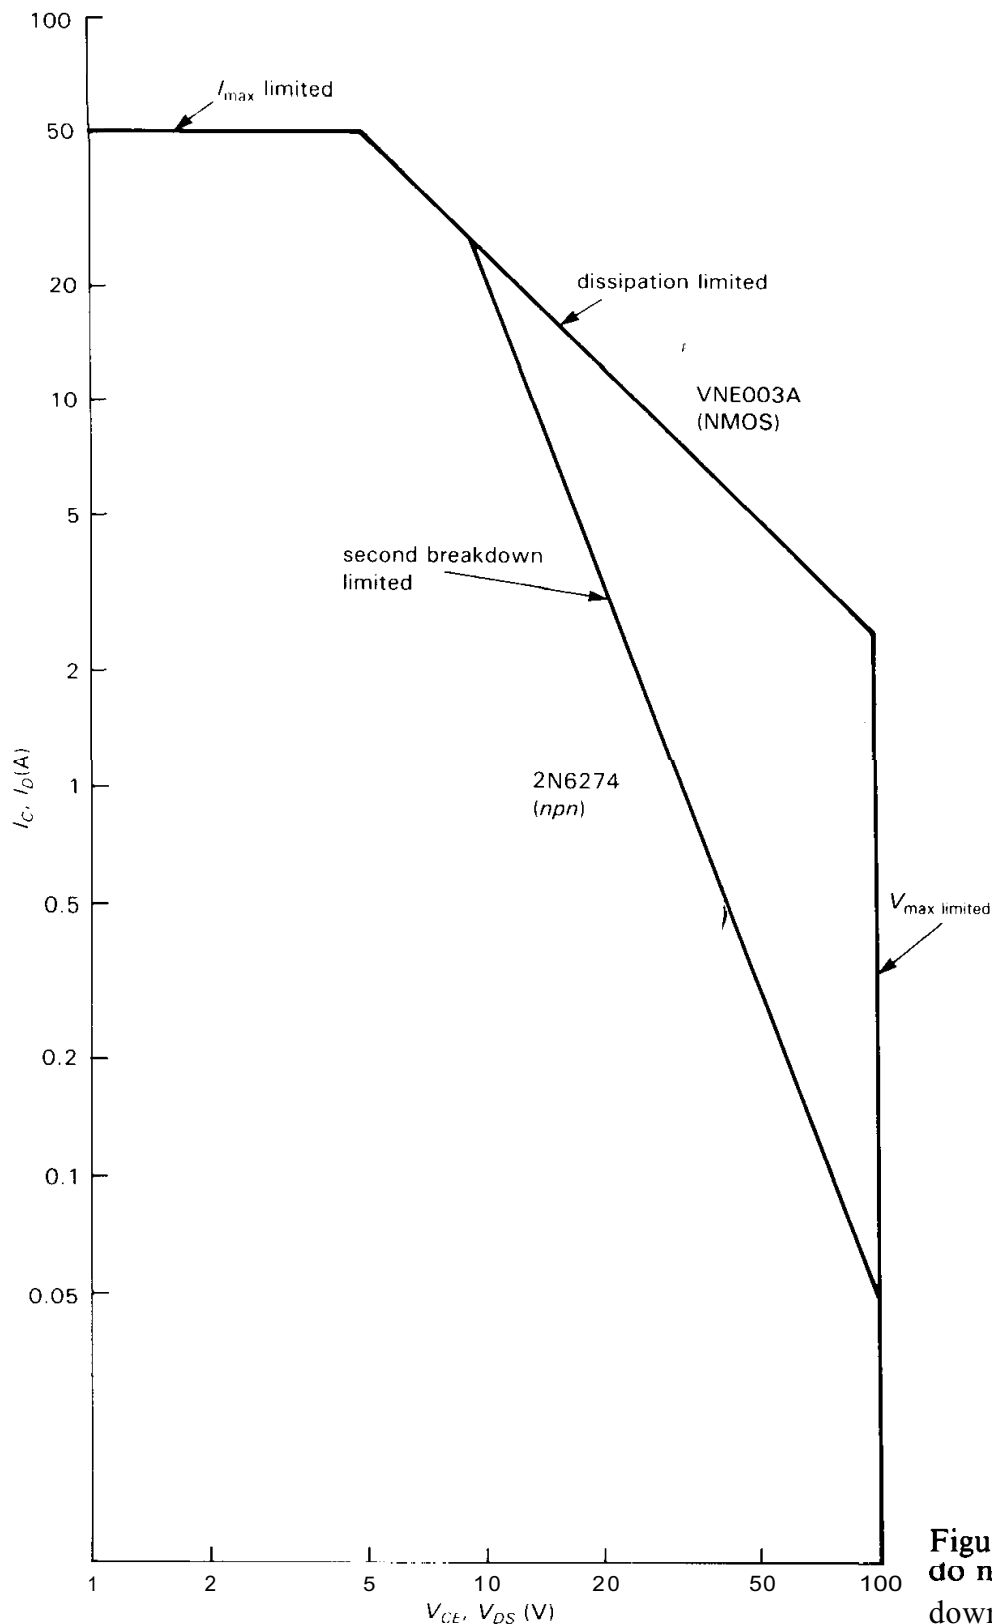

Figure 3.66. Power MOSFETs do not suffer from second breakdown.
these junction hot spots entirely. MOSFETs have no second breakdown, and their safe operating area (SOA) is limited only by power dissipation (see Fig. 3.66, where we've compared the SOAs of an *npn* and an NMOS power transistor of the same I_{\max} , V_{\max} , and P_{diss}). For the same reason, MOSFET power amplifiers don't have the nasty runaway tendencies that we've all grown to love in bipolar transistors (see Section 2.15), and as an added bonus, power MOSFETs can be paralleled without the current-equalizing "emitter-ballasting" resistors that are necessary with bipolar transistors (see Section 6.07).
□ **MOSFETs versus BJTs as high-current switches.** Power MOSFETs are attractive alternatives to conventional power BJTs most of the time. They currently cost somewhat more, for the same capability; but they're simpler to drive, and they don't suffer from second breakdown and consequently reduced safe-operating-area (SOA) constraints (Fig. 3.66).